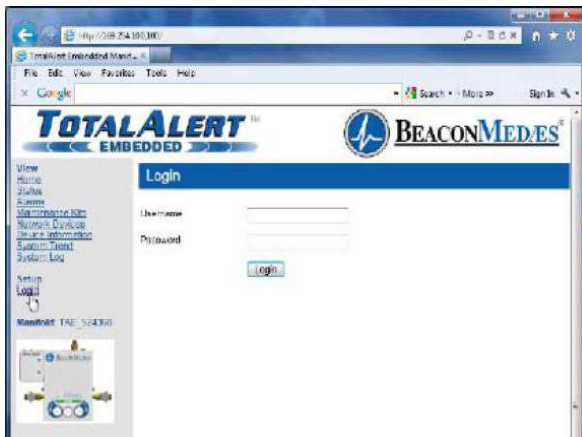

Figure 36: Login for Setup Pages
2. Click "Login" on the menu bar in the left pane. The web browser will request a username and password (Figure 36).